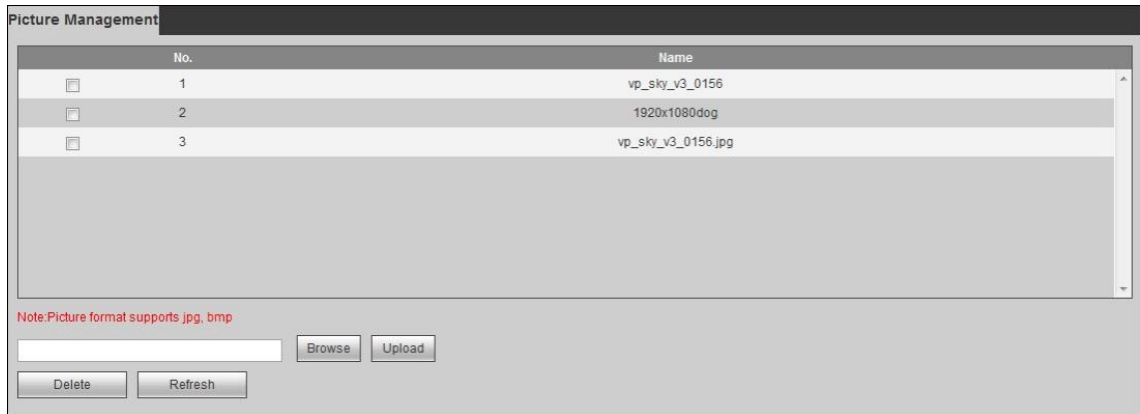

Figure 4-39
Step 1 Select "Setup> System Config> Picture Management". The system displays Figure 4-39.